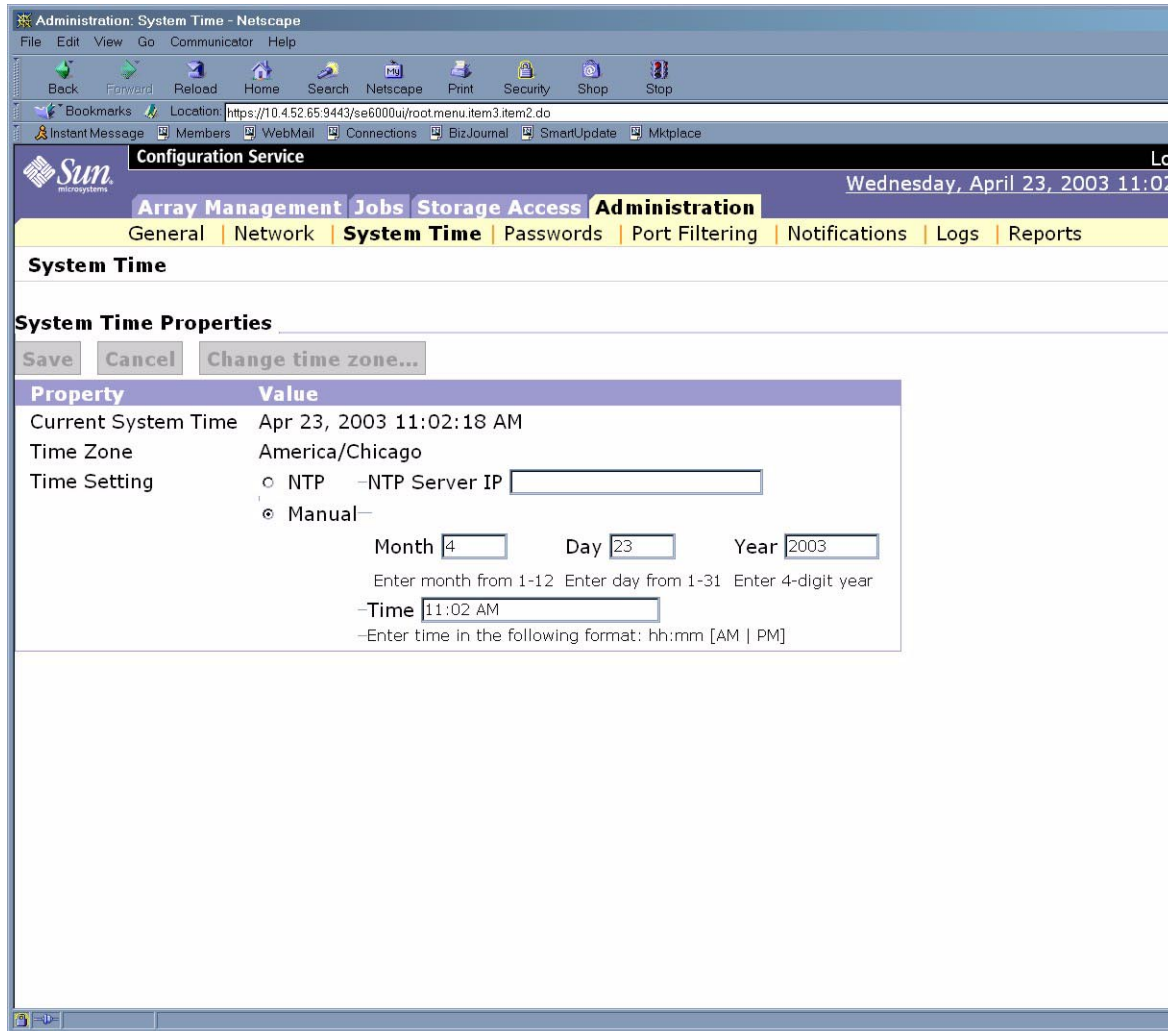

FIGURE 6-10 System Time Page
5. Click on System Time and the System Time page is displayed as shown in FIGURE 6-10.